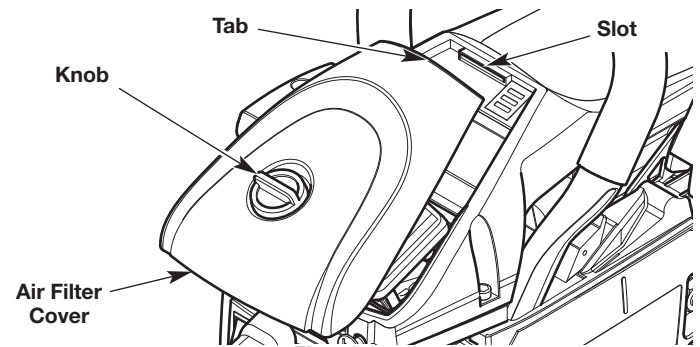

Fig. 42
1. Turn the knob on the air filter cover counterclockwise to loosen the air filter cover (Fig. 42).
2. Remove the air filter cover (Fig. 42).
6. Place the air filter cover back onto the unit. Insert the tab on the air filter cover into the slot on the chain saw housing (Fig. 42).
2. Turn the knob on the air filter cover counterclockwise to loosen the air filter cover (Fig. 42).
3. Remove the air filter cover (Fig. 42).
10. Place the air filter cover back onto the unit. Insert the tab on the air filter cover into the slot on the chain saw housing (Fig. 42).